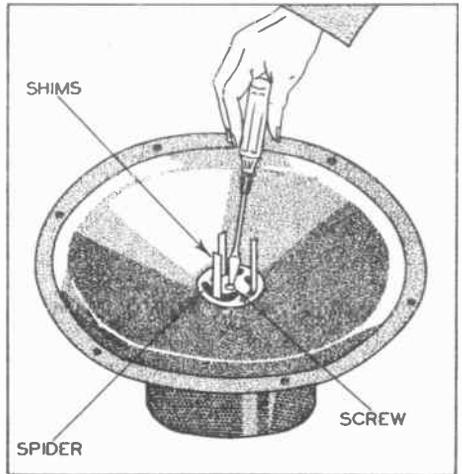

FIG. 3. Re-centering a loudspeaker voice coil with the aid of celluloid shims.
FIG. 3. Typical I.F. amplifier stage and its connections to the receiver power pack. VT1 is the I.F. amplifier tube; its cathode is 1; control grid is 2; screen grid is 3; suppressor grid is 4; plate is 5.
The chief advantage of the circuit disturbance test is that it can be carried out in a few minutes, working from the top of the chassis. A signal generator test of the suspected stage will then verify the results of the circuit disturbance test and also tell whether the defect is in the input or output circuit. A typical I.F. amplifier stage is shown in Fig. 3: if a tone is heard when the free S.G. probe is connected to point 5 (the other S.G. probe being on the chassis), we know that parts *C2*, *L3*, *L4* and all following sections are good. If the free S.G. probe is moved from point 5 to point 2, and no output tone is now heard, we have conclusive evidence that there is trouble in the tube, that *C1* or *L2* is shorted, or that the tube is not receiving its proper electrode voltages.
Before considering how the defective part can be located with an ohmmeter once its approximate location has been determined, let us consider the fundamental rules for checking continuity with an ohmmeter. The circuit in Fig. 3 will be used as our example.
**RULE 1.** There should be continuity between the cathode of the rectifier tube and all tube electrodes which are supplied with positive D.C. potentials. This rule therefore applies to screen grid and plate electrodes. Thus, in Fig. 3 you can trace from the plate of the tube (point 5) through coil *L3*, resistor *R2* and choke coil *L5* to point *x*, which is at the cathode of the power pack rectifier tube.
**RULE 2.** There should be continuity between a plate terminal of the rectifier tube and all tube electrodes which are supplied with negative D.C. potentials. This rule applies to control grids and suppressor grids, and also to cathodes. Thus, in Fig. 3 you can trace from the control grid (point 2) through *L2* to ground (the chassis), through the chassis to point *y*, and through either half of the power transformer secondary winding to a rectifier tube plate.
exceptions. For example if resistor *R4* were omitted from the circuit in Fig. 3 (as it often is), this general continuity-to-chassis rule would not hold true for the plate and screen grid electrodes (5 and 3).
The procedure for isolating a defective part with an ohmmeter can be best explained by using Fig. 3 as an example. With the receiver power plug out of its wall outlet, connect the ohmmeter probes in turn to points 5 and *x*, 3 and *x*, 1 and *x* (or the chassis), 2 and *x*, and finally to 4 and *x*. In each case a definite reading of the ohmmeter clears that circuit of suspicion; an open circuit indication (no ohmmeter pointer movement) indicates a defect, and we then concentrate on the circuit between the two points to which the ohmmeter probes are connected.
If the defective stage is definitely located but continuity tests with an ohmmeter do not indicate an open circuit, the next step can be an ohmmeter check of each part in the suspected stage. A study of the circuit diagram will reveal the parts which are most likely to cause a dead receiver, and these can be checked first. For example, shorting of condenser *C5* in Fig. 3 would prevent application of a D.C. voltage to the screen grid; an ohmmeter check across either *R4* or *C5* would reveal this short, and the parts would then be checked individually to determine which one was at fault.
regular Course. The procedure for the re-centering in the case of an internal spider is shown in Fig. 3; the single screw in the center of the spider is loosened, flexible celluloid shims are inserted through the slots in the spider to center the voice coil, the screw is tightened, and the shims are removed. Sometimes the voice coil will center itself when the screw is loosened, eliminating the need for shims.